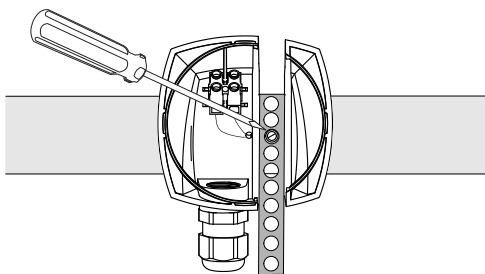

Figure 2 Secure the metal strip
4. Use the dedicated screw to secure the metal strip as shown in *Figure 2*.